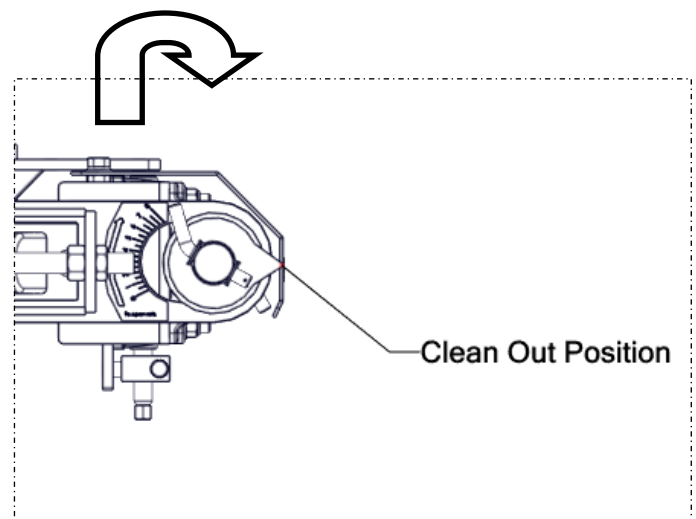

Figure 4.5
2. Ensure that the feed gate is closed (Figure 4.5) before starting the mill. Even a few grains will keep the rolls from turning. Start the rolls turning at minimum RPM and slowly increase the RPM speed to 540.
6. When finishing the rolling process, always clean the top hopper out completely and close the feed gate. Note that the feed gate stop bolt (Figure 4.5) can be used to set a consistent opening point. This maintains product consistency each time rolling is performed.